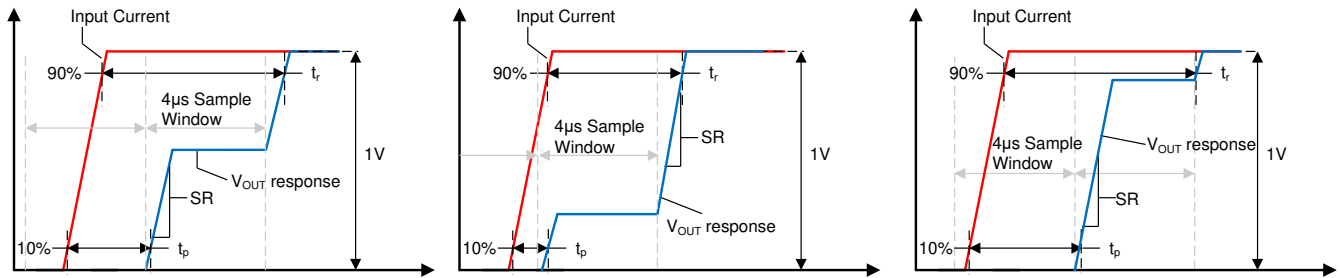

Figure 8-3. Small Current Input Step Transient Response
Slew rate (SR) is defined as the  $V_{OUT}$  rate of change for a single integration step's output transition, as shown in Figure 8-3. Because the device often requires two sampling windows to reach a full 90% settling of its final value, this slew rate is not equal to the 10%-90% transition time for the full output swing.
Propagation delay is the time period between the input current waveform reaching 10% of its final value and  $V_{OUT}$  reaching 10% of its final value. This propagation delay is heavily dependent upon the alignment of the input current step and the sampling period of the TMCS1101, as shown for several different sampling window cases in Figure 8-3.
Response time is the time period between the input current reaching 90% of its final value and the output reaching 90% of its final value, for an input current step sufficient to cause a 1-V transition on the output. Figure 8-3 shows the response time of the TMCS1101 under three different time cases. Unless a step input occurs directly during the beginning of one sampling interval the response time will include two sampling intervals.